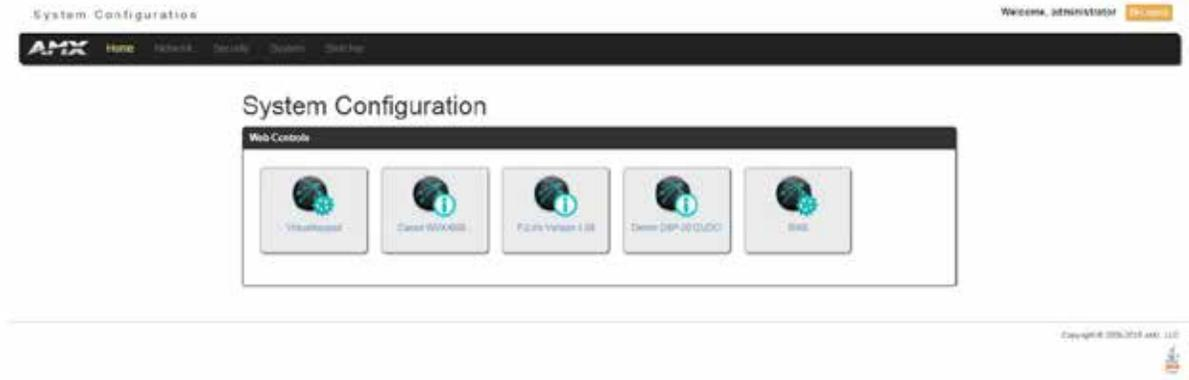

FIG. 62 WebConsole - Web Controls page (initial view)
Incite Digital Video Presentation Systems have a built-in System Configuration interface that allows you to make various configuration settings via a web browser on any PC that has access to the Master. The System Configuration interface (an on-board web configuration) contains a comprehensive set of web pages that can be used during setup to manage your system's network, security, and system needs, as well as configure its inputs and outputs while executing switches (FIG. 62).
2. Press Enter to access WebConsole for that Master. The initial view is the *Web Control* page (FIG. 62).